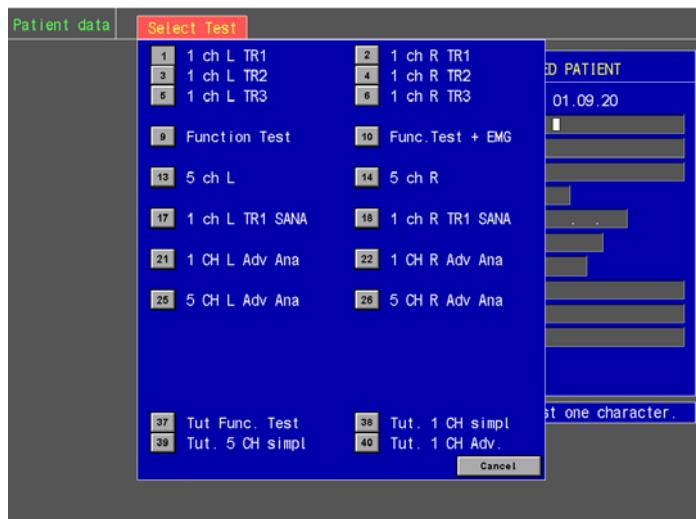

Figure 71 The Select Test Menu
- Click **OK** to proceed to the Select Test Menu, see Figure 71 below.
- In the Select Test Menu, click the selectable button number **40** named Tut. 1 CH Adv., please see Figure 71 above.